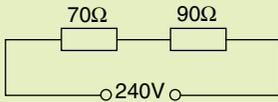

Figure 25
8. Determine the value of a resistor which when connected in parallel with the $70\ \Omega$ resistor will cause a total current of $2.4\ \text{A}$ to flow in the circuit of Figure 25.